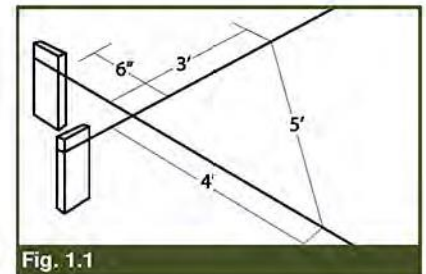

Fig. 1.1
1. Determine location of your fence and drive stakes into the ground beyond the corners and the ends of the fence. So you do not disturb the stakes when digging, locate them out an additional 6" beyond where the post is to be set (see Fig. 1.1).